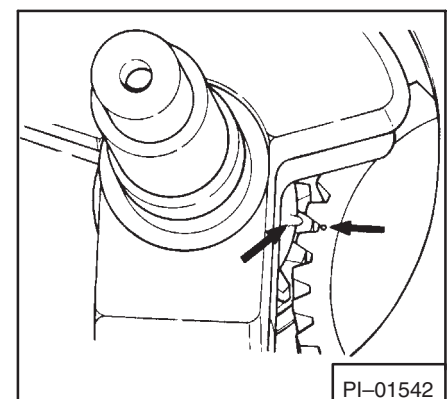

Fig. 51 Timing Marks
- b. Turn crankshaft and camshaft until timing mark on shoulder of crankshaft lines up with mark (dot) on cam-gear as shown in Fig. 51.
- c. When marks are aligned, press crankshaft into bearing—make sure gears mesh as shaft is pressed into bearing. After shoulder bottoms against inner race, recheck timing mark to make sure they are still aligned (Fig. 51).